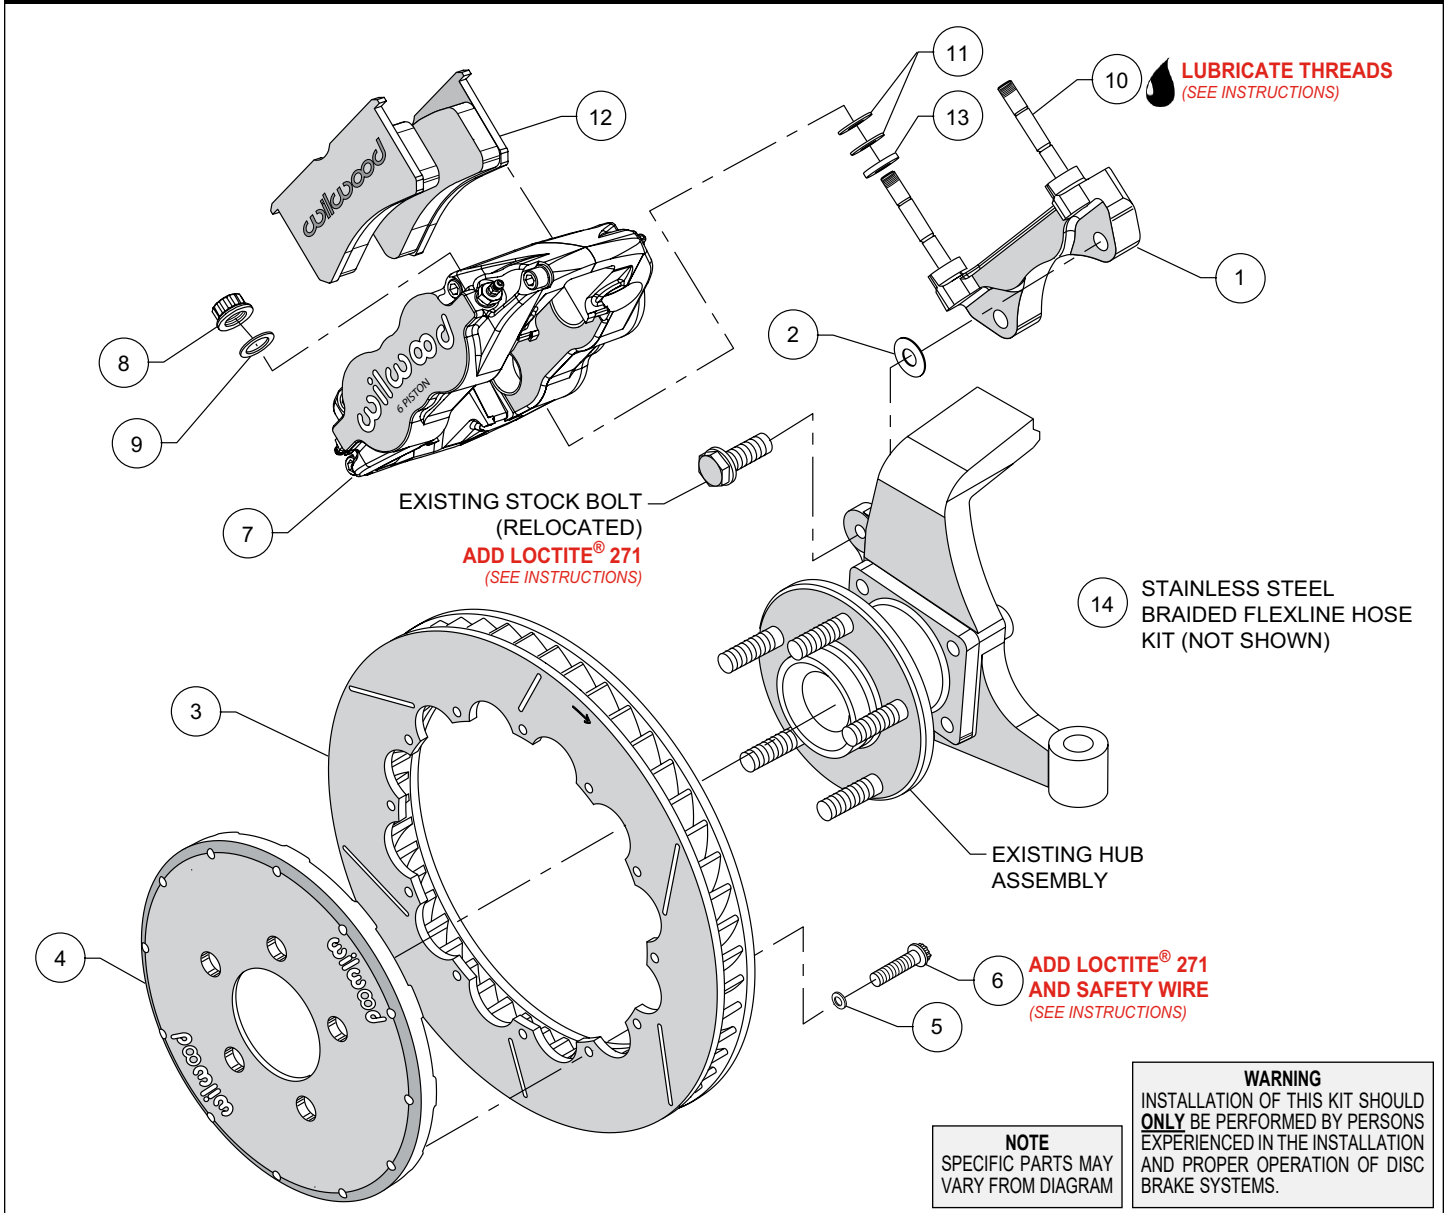
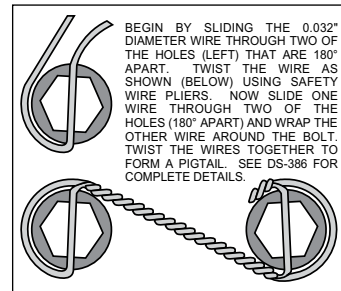

Figure 1. Typical Installation Configuration
Figure 3. Safety Wire Diagram
NOTE: Numbers in parenthesis refer to the parts list and Figure 1 on the preceding pages.
- The caliper mount bracket (1) should initially be installed with clean, dry threads on the mounting bolts. Orient the bracket as shown in Figure 1, and install using OEM bolts. Initially place one .033 thick shim (2) on each bolt between the bracket and upright, Figure 1. Temporarily tighten the mounting bolts. **NOTE:** The bracket must fit squarely against the mount bosses on the upright. Inspect for interference from casting irregularities, machining ridges, burrs, etc. Later, after the caliper alignment has been checked, the mount bolts will be secured using red *Loctite*® 271.
- Orient the rotor (3) and the hat (4) as shown in Figure 1 and Photo 1. Attach rotor to hat using bolts (6) and washers (5). Using an alternating sequence, apply red *Loctite*® 271 to the threads, and torque to 155 in-lbs. The bolts must be safety wired using standard 0.032 inch diameter stainless steel safety wire as shown in Figure 3. Please refer to Wilwood's data sheet DS-386 (available at www.wilwood.com/Pdf/DataSheets/ds386.pdf) for complete safety wire installation instructions.
- NOTE:** This kit contains distinct right and left hand calipers that must be mounted in a specific direction, as described below. Lubricate the caliper mounting studs (10) with lightweight oil. Initially place one .062" thick spacer (13) and two .035" thick shims (11) on each stud as shown in Figure 1 and Photo 2. Mount the caliper (7) onto the bracket (1) using lock nuts (8) and washers (9), Figure 1. Ensure that the caliper is mounted so that the largest pistons are at the rotor exit end of the caliper, in relation to the direction of rotor rotation. Temporarily tighten the lock nuts and view the rotor through the top opening of the caliper. The rotor should be centered in the caliper, Photo 3. If not, adjust by adding or subtracting shims (2) between the bracket and the upright. Always use the same amount of shims on each of the two mounting bolts. Once the caliper alignment is correct, remove the bracket mounting bolts one at a time, apply red *Loctite*® 271 to the threads, and torque to 60 ft-lb.
- Remove the caliper center bridge pad retainer bolt, nut, and tube from the caliper. Insert the brake pads (12) into the caliper, with the friction material facing the rotor, as shown in Photo 4. Check that the top of the brake pad is flush with the outside diameter of the rotor, Photo 5. If not, adjust by adding or subtracting shims (11) between the caliper and the bracket. After the caliper pad height is set, reinstall the center bridge pad retainer tube, bolt, and lock nut. The lock nut should be snug without play in the bolt or tube. Be cautious not to over tighten. Torque the caliper lock nuts (8) to 30 ft-lb.